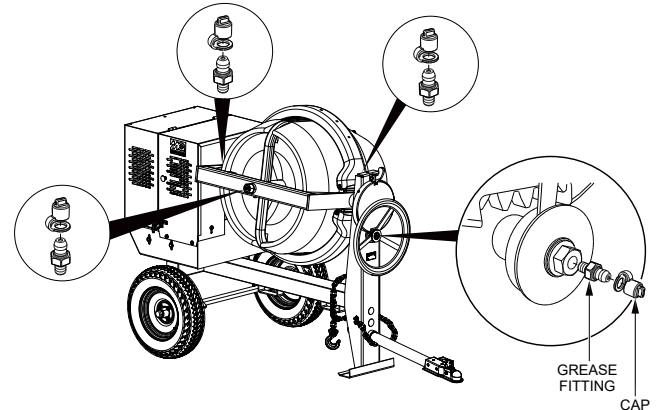

Figure 33. Grease Fittings (Mixer)
1. There are **four** grease (Figure 33) fittings that will require lubrication. Lubricate these fittings **once a week**. Use lithium base grease, grade NO.1.